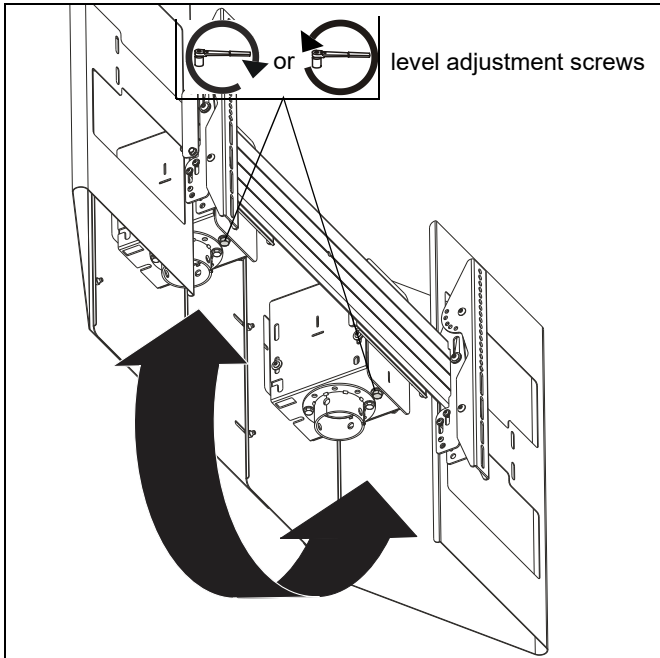

Figure 23
1. Adjust level adjustment screws to change roll position. The roll may be adjusted 1° in either direction. (See Figure 23)